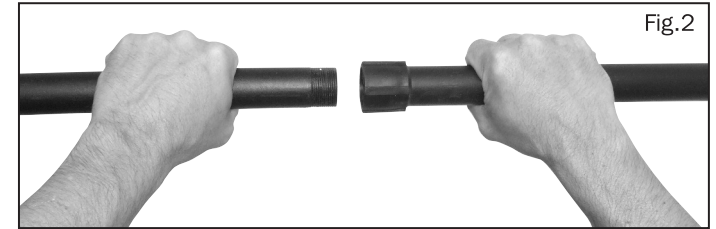

Fig.2
1. Screw together the 3 parts of the Suction Tube (7). Fig.2